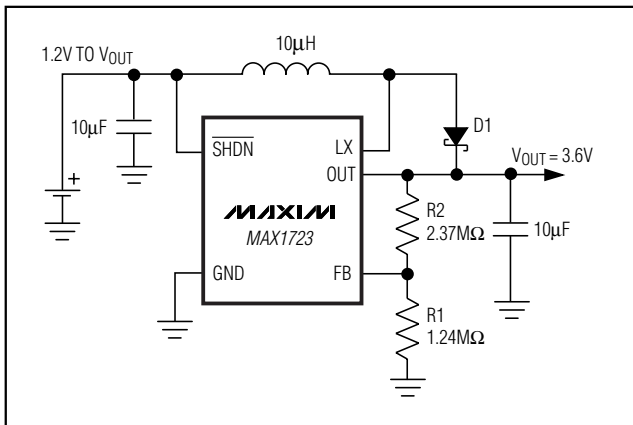
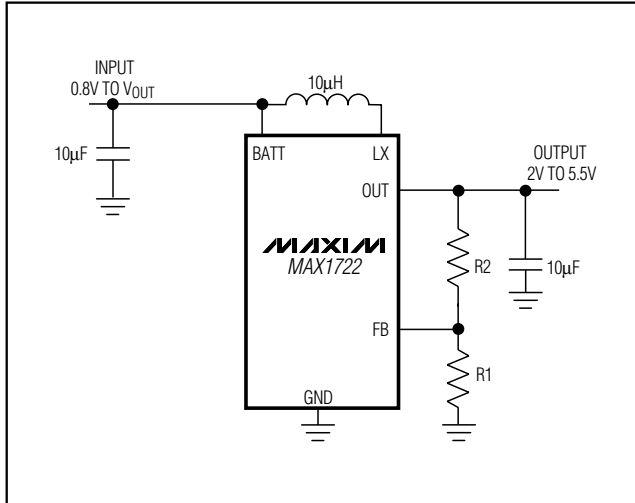
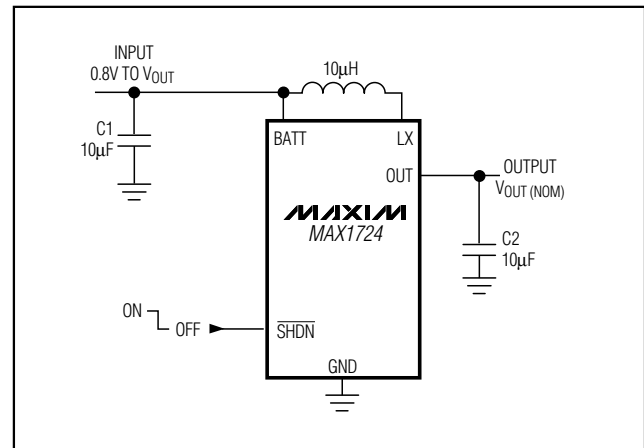

Figure 3. MAX1723 Single-Cell Operation
Figure 7. Adjustable Output Circuit
Figure 8. MAX1724 Standard Application Circuit
**Note 2:** Guaranteed with the addition of a Schottky MBR0520L external diode between LX and OUT when using the MAX1723 with only one cell, and assumes a 0.3V voltage drop across the Schottky diode (see Figure 3).
(Figure 3 (MAX1723), Figure 7 (MAX1722), Figure 8 (MAX1724), VBATT = VIN = 1.5V, L = 10µH, CIN = 10µF, COUT = 10µF, TA = +25°C, unless otherwise noted.)
(Figure 3 (MAX1723), Figure 7 (MAX1722), Figure 8 (MAX1724),  $V_{BATT} = V_{IN} = 1.5V$ ,  $L = 10\mu H$ ,  $C_{IN} = 10\mu F$ ,  $C_{OUT} = 10\mu F$ ,  $T_A = +25^\circ C$ , unless otherwise noted.)
lacks a BATT pin; therefore, this circuit is powered through the OUT pin. Adding a Schottky diode in parallel with the P-channel synchronous rectifier allows for startup voltages as low as 1.2V for the MAX1723 (Figure 3). The external Schottky diode is not needed for input voltages greater than 1.8V. Once started, the output maintains the load as the battery voltage decreases below the startup voltage.
The output voltage can be adjusted from 2V to 5.5V using external resistors R1 and R2 (Figure 7). Since FB leakage is 20nA (max), select feedback resistor R1 in the 100kΩ to 1MΩ range. Calculate R2 as follows: